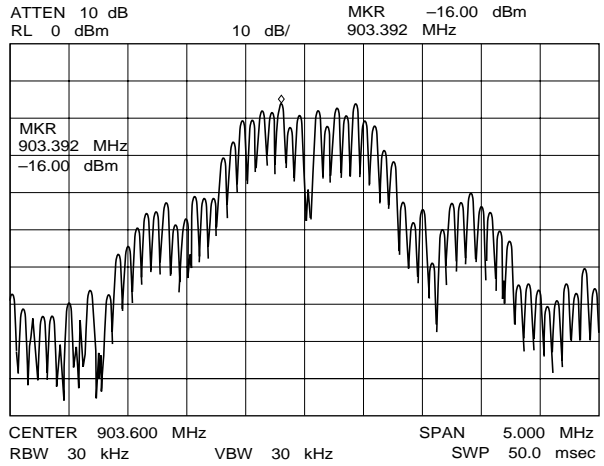
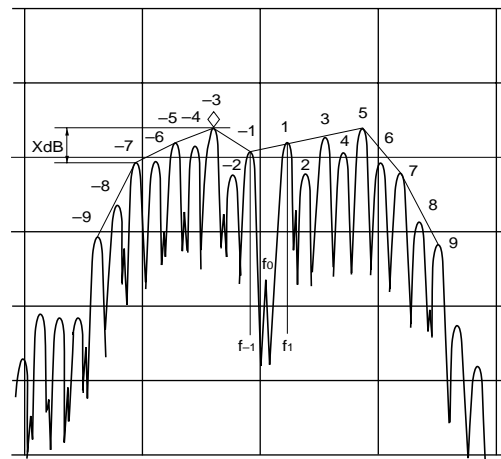

Fig. 1
Fig. 2
- Acceptable level [XdB] difference between the highest peak and the lowest peak of odd side band (the first to seventh side band from Center Frequency ; Transmission Frequency f0: CH1) is under 10 dB. (Refer Fig. 1 and Fig. 2)